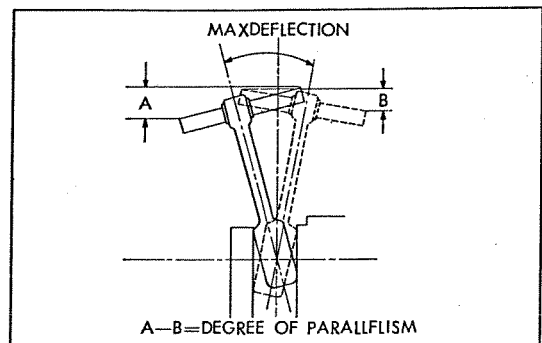

Fig. 3.92 Measurement of parallel condition at the piston end of the connecting rod
2. Measurement to determine if the connecting rod ends are correctly aligned and parallel is obtained by measuring the difference of inclination of points 50 mm (2.0") away from the center when a 100 mm (4.0") bar with the same thickness as the piston pin diameter is inserted into the bore of the piston end and twisted to the right and left, and when the bar is rotated 90° and again twisted to the right and left. (Refer to Fig. 3.92)